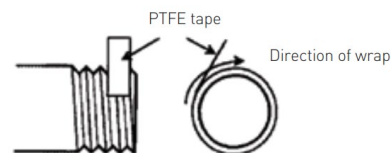

FIGURE 1
3. Wrench tighten tailpipes of upper and lower gagecocks to the vessel using PTFE tape, or equivalent, on all male tapered pipe thread connections as shown in Figure 1. If the gagecock is flanged or weld mount, use proper industry standard procedures.
**Leakage around union** connections can often be stopped by tightening union coupling nut or remaking the connection using PTFE tape, or equivalent, on all male pipe threads as shown in Figure 1. Internal or external corrosion could be an indication of a misapplication. An investigation should be carried out immediately to determine the cause of the problem. It is the user's responsibility to choose a material of construction compatible with both the contained fluid and the surrounding atmosphere.